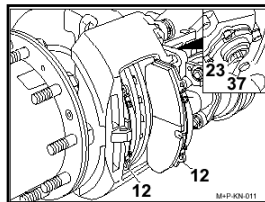

Figure 28
- Turn the adjuster screw (item 23) as shown in **Figure 28**, clockwise until the boots are clearly visible and inspect.